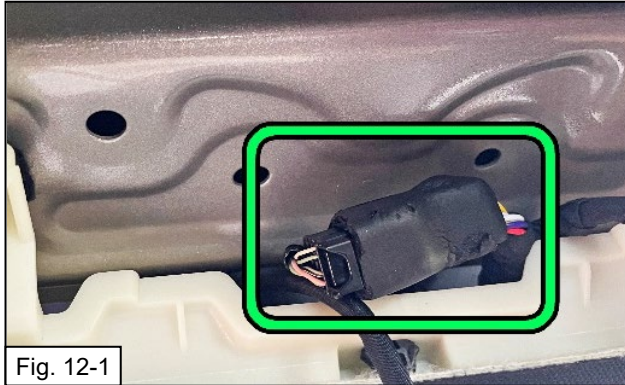

Fig. 12-1
- (a) Before proceeding with securing the harness, confirm that both connector pairs and fuse holders have been protected with the provided foam tape. Use the provided foam tape to minimize any potential rattle concerns. (Fig. 12-1)